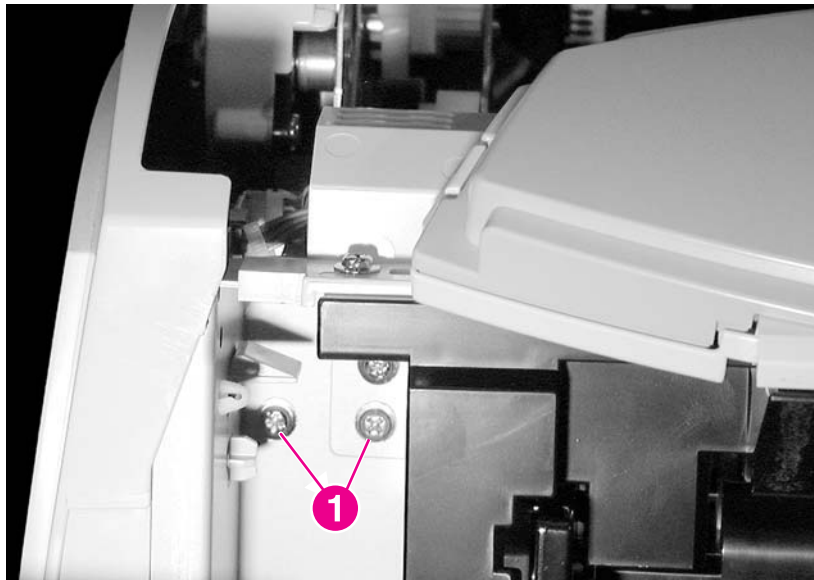
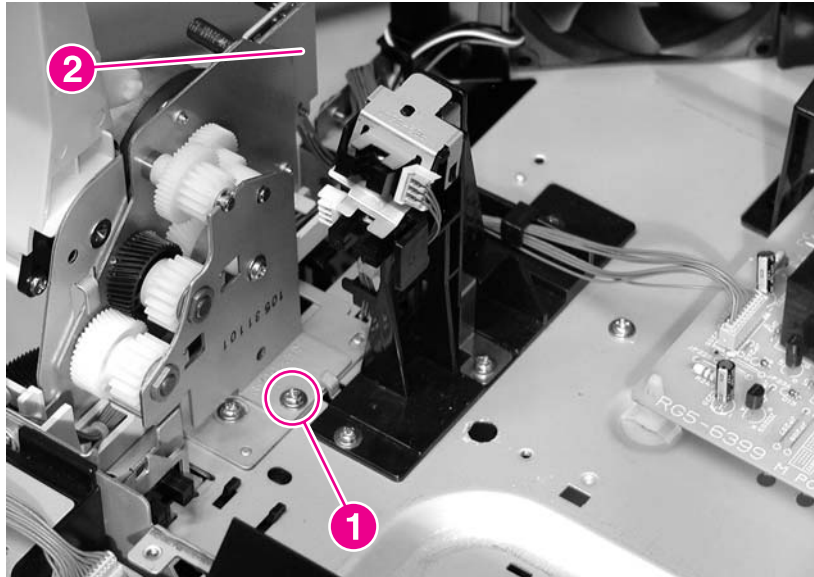

Figure 6-66. Remove the fuser drive unit (1 of 2)
Figure 6-67. Remove the fuser drive unit (2 of 2)
4. Remove three screws (callout 1 in Figure 6-66. Remove the fuser drive unit \(1 of 2\) and Figure 6-67. Remove the fuser drive unit \(2 of 2\)).
5. Disconnect the connector (callout 2). (This connector is hidden in Figure 6-67. Remove the fuser drive unit \(2 of 2\). It is on the rear left side of the fuser drive unit).